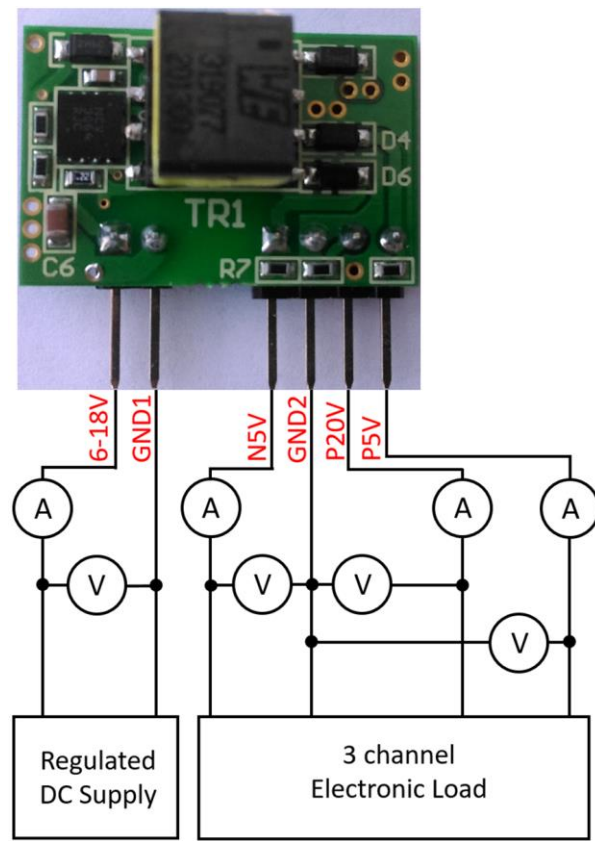

Figure 1. Test Setup
1. Connect the test setup as shown in the figure 1.